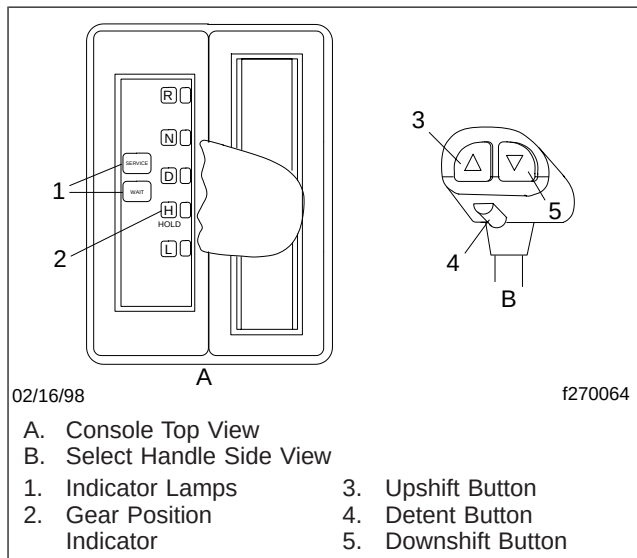

Fig. 8.14, Enhanced Driver Command Console (DCC)
- The Enhanced DCC (Fig. 8.14) has indicators for the three forward positions: Drive, Hold, and Low, plus Reverse and Neutral positions. Service and wait lamps are also located on the
2. On 10-speed models, select either LO or HI reverse by depressing either the downshift or upshift button (Fig. 8.14) on the gear select handle (if equipped).
NOTE: On vehicles equipped with upshift and downshift buttons (Fig. 8.14) on the gear select handle (enhanced DCC), you may select the starting gear. The gear you select is only active while the vehicle is running. The transmission resets to the default starting gear after you have shut off the engine. Depending on the vehicle's load, you may select gears 1 through 5 as the starting gear.